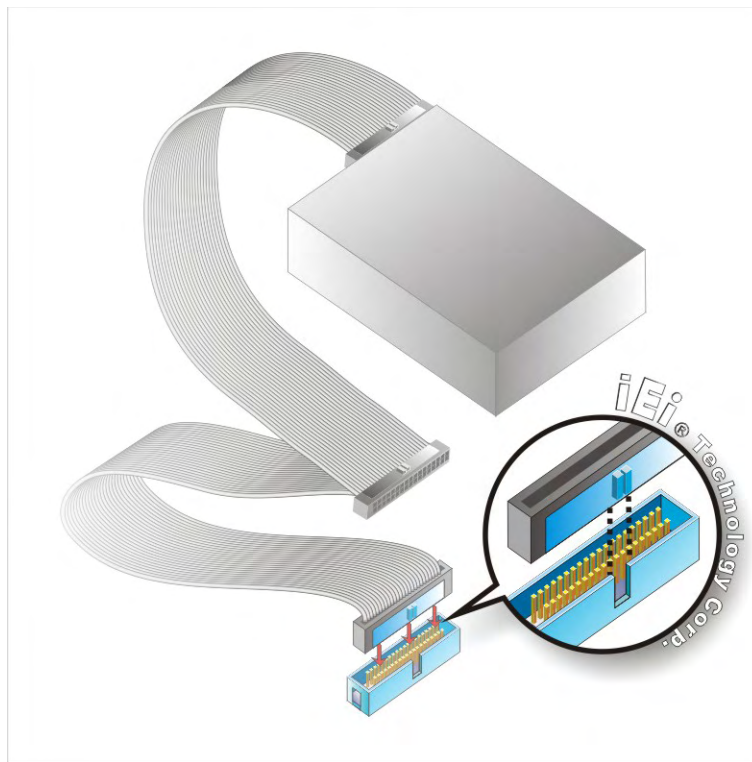

Figure 4-10: IDE Cable Connection
**Step 2: Insert the connector.** Connect the IDE cable connector to the on-board connector. See Figure 4-10. A key on the front of the cable connector ensures it can only be inserted in one direction.